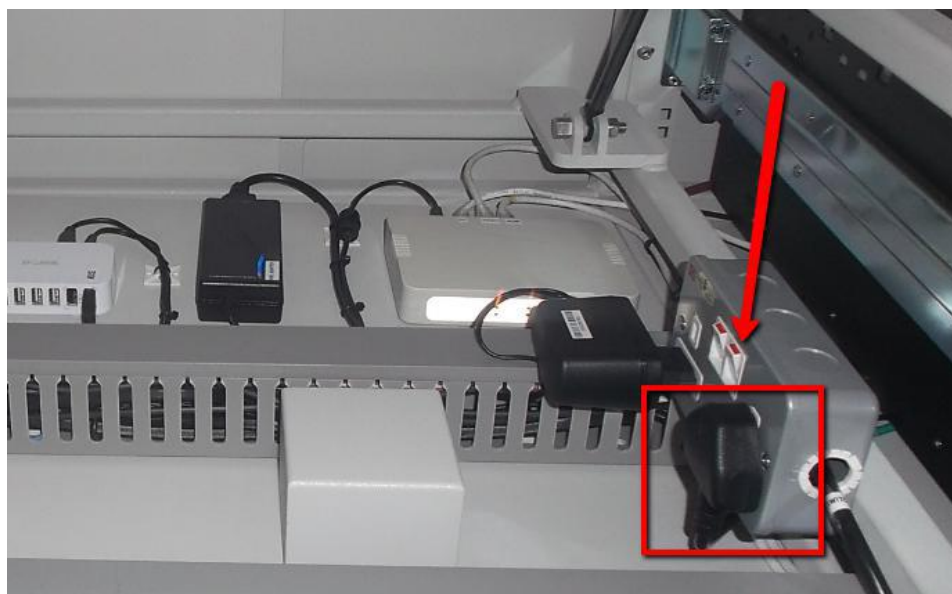

Figure 11 3 PIN PLUG POWER SWITCH
10. Turn on 3 PIN PLUG Switch as below Figure 11.